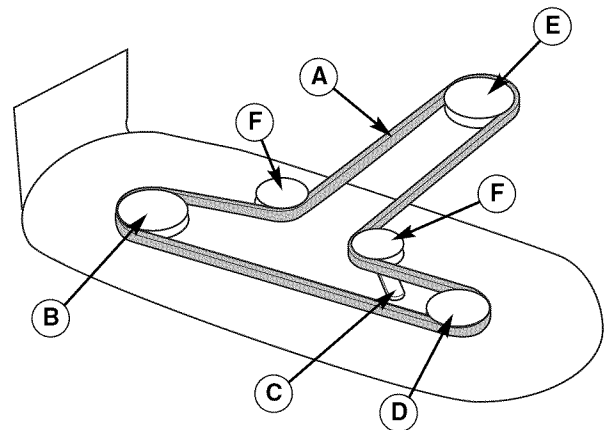

Figure 42. PTO Belt Routing
2. Use the idler pulley arm (C, Figure 42) to release belt tension and remove the mower belt (A) from the PTO pulley (E).
4. Install the new belt (A) as shown in Figure 42.